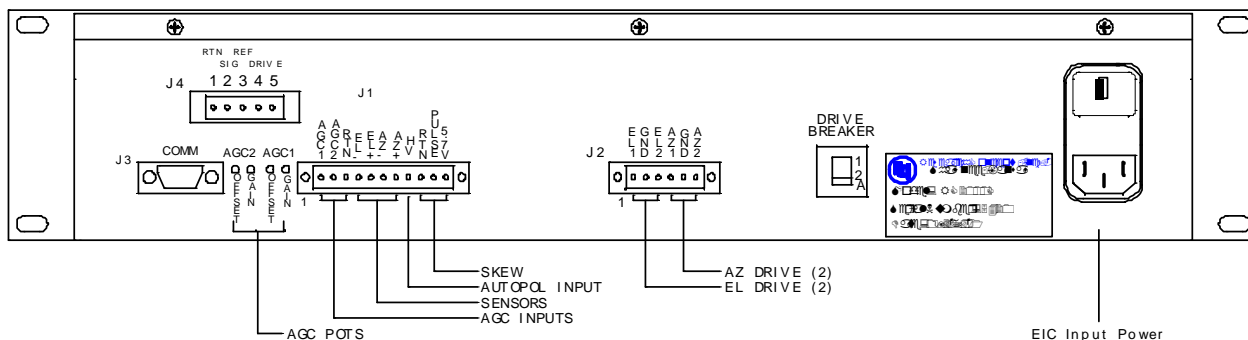

Figure 3.1 - RC2000 Back Panel
This section covers the mechanical and electrical installation of the unit. Use 4 10-32 mounting screws to secure the unit to a standard 19" rack. Please refer to figures 3.1, 3.2, and 3.3 for diagrams of the controller back panel and electrical connections.
3. Make the required electrical connections. Shielded cable must be used for the position sensors and the shields must be connected at the back of the controller and NOT at the antenna. Refer to figures 3.1, 3.2, and 3.3.